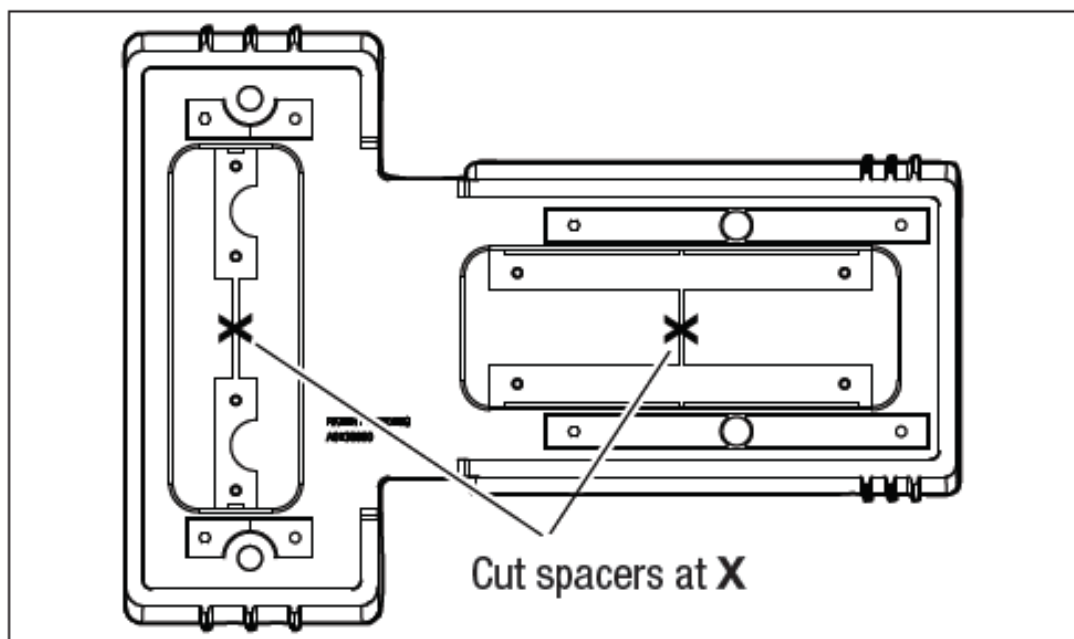

Figure 6. Cut Sets of Spacers Out of Base
1. Using a hand cutter tool, cut the plastic bars connecting the top and bottom sets of spacers, as shown in Figure 6.